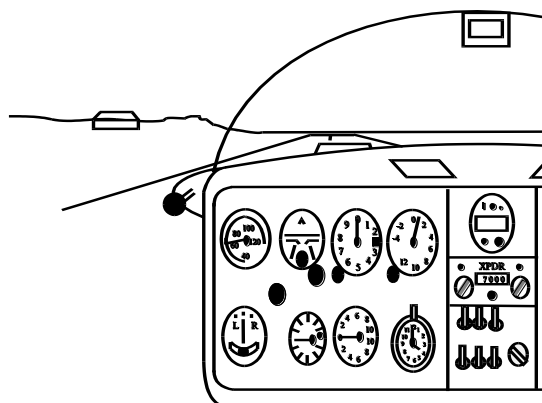

Fig 11. The Landing or Touch down attitude.
b. **Hold off.** This is a period where the aircraft is losing airspeed because it is gliding level just above the ground. If the attitude remained the same then the aircraft would sink toward the ground as the reduction in speed caused a reduction in lift. To prevent the aircraft touching down early we increase the angle of attack of the wings by applying a back pressure on the control column. This progressively pitches the nose of the aircraft up until the landing attitude is reached. Fig 11 shows a landing attitude although, depending on your sitting height, this will vary from one individual to another. The correct picture for the landing attitude is that which you see whilst taxiing. Remember that the airbrakes tend to close as airspeed reduces so it is vital to hold the airbrake lever firmly.